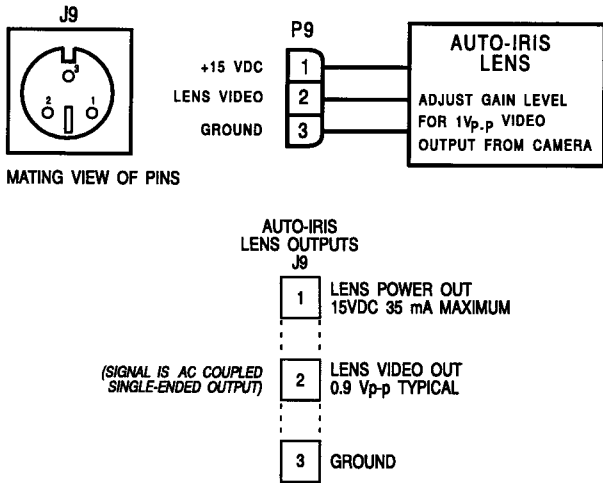

Figure 9. Auto Iris Output (J9)
5. If an auto lens is used, plug the lens cable (P9) into the lens connector (J9) on the rear panel. See figure 9 for an illustration of wiring and pin functions.